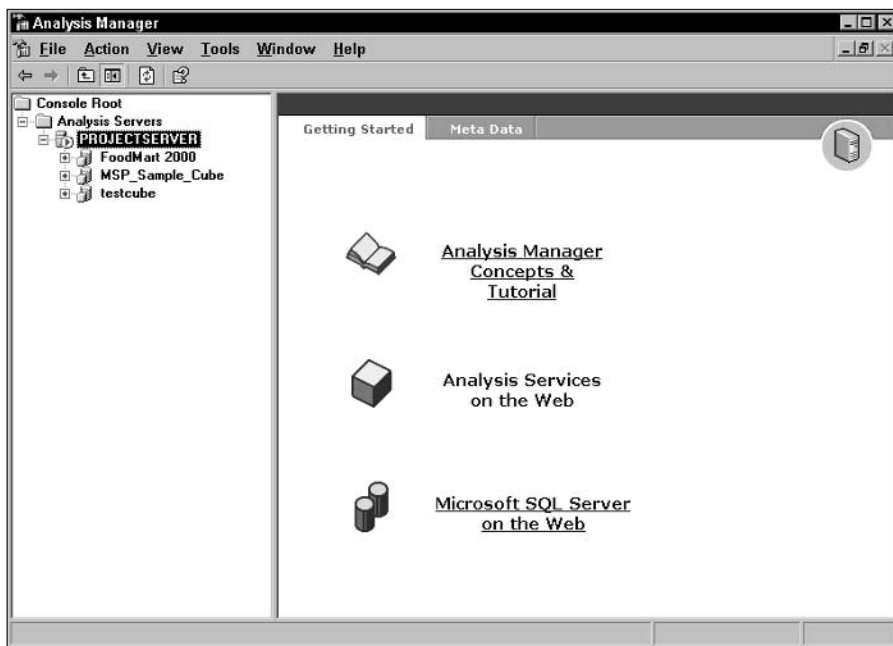

Figure 19-50: Use this window to migrate the Analysis Services Repository.
1. Choose Start→All Programs→Microsoft SQL Server→Analysis Services→Analysis Manager. You see the Analysis Manager window, as shown in Figure 19-50.